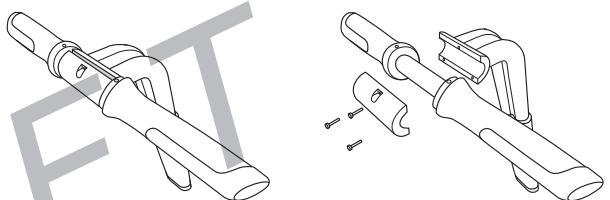

Figure 65: Remove the Handlebar
3. Remove the LeanSteer Frame from the stem (see **Figure 65**).